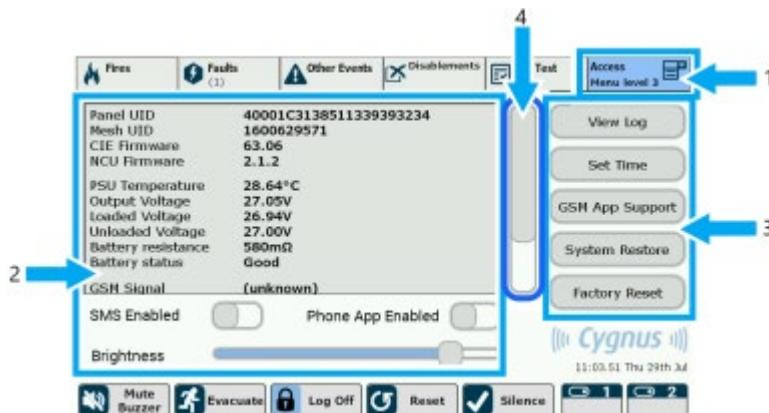

Figure 144: Access System Settings touchscreen
These tasks can be done with a User Level 3 profile (Figure 144, [1]):
13. View Log: Log displays all historic events (Figure 144, [3]).